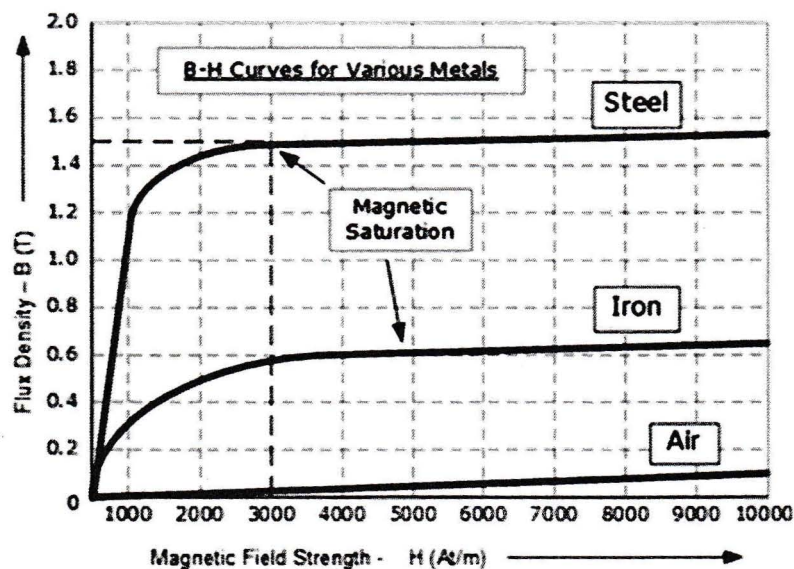

Figure Q1
- (c) Figure Q1 shows the BH curve of steel used for the transformer core in comparison with that of iron and air. From this BH curve, what is the appropriate value of maximum flux density B_{max} in the core during the transformer design stage? Give your reason.
- (d) Consider a step-up, three-phase transformer, Y/ Δ connected and core type. The transformer is designed for voltage range operation of 415V/3.3kV and frequency of 50 Hz. The material for transformer core is steel with the BH characteristic as shown in Figure Q1. Effective cross-sectional area of the transformer core is 225 cm². Assume that the maximum voltage drop is 5%, determine: